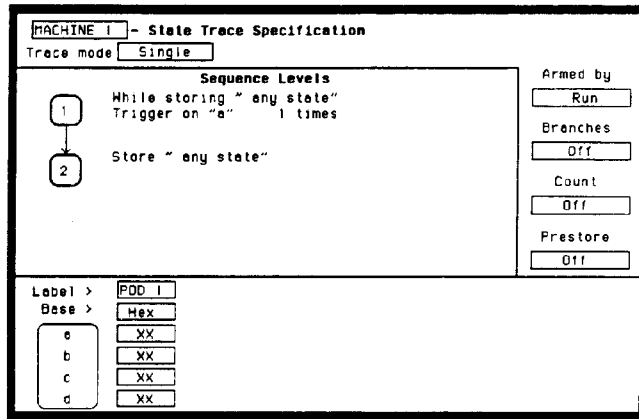

Figure 3-14. Trace Specification for Data Test 2
- Set the **State Trace Specification** without sequencing levels and set **Count** to **Off** as in figure 3-14.
- Set the **State Trace Specification** without sequencing levels and set **Count** to **Off** as in the previous test figure 3-14.